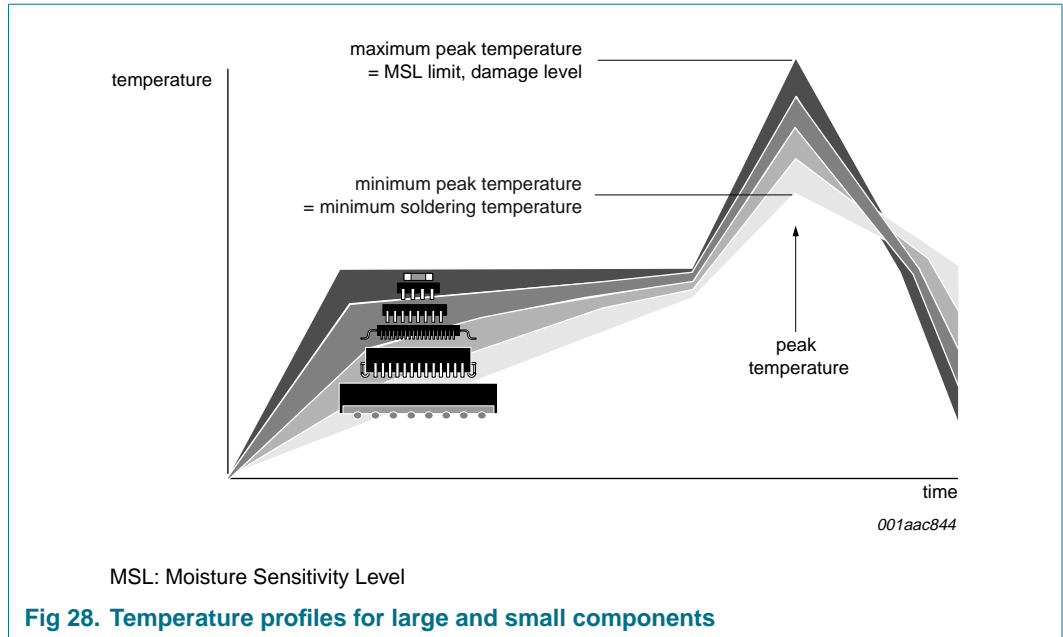

Fig 28. Temperature profiles for large and small components
- Lead-free versus SnPb soldering; note that a lead-free reflow process usually leads to higher minimum peak temperatures (see Figure 28) than a PbSn process, thus reducing the process window
Studies have shown that small packages reach higher temperatures during reflow soldering, see Figure 28.